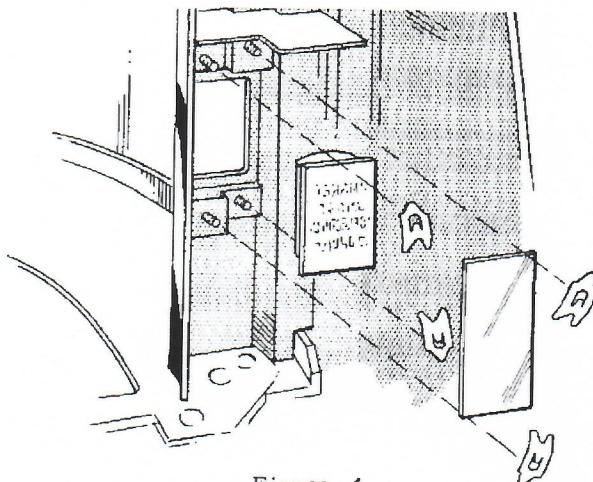

Figure 4.
2. In the 2-credit position, the lower left credit window lights up to indicate "10¢ Credit - Another Coin Required". This credit window, Part No. 505553 is available from your Seeburg Distributor and is installed as shown in Figure 4.
Deposit of a nickel will light up the lower right hand credit window and indicate "5¢ Credit-Another Coin Required". This credit window (Part No. 505552) is factory assembled in the lower left hand side of the V-3WA-N Wall-O-Matic cover and must be transposed with "Make 5¢ Selection Only" (Part No. 505554) to satisfy combination No. 3. See *Figure 4* for method of assembly.